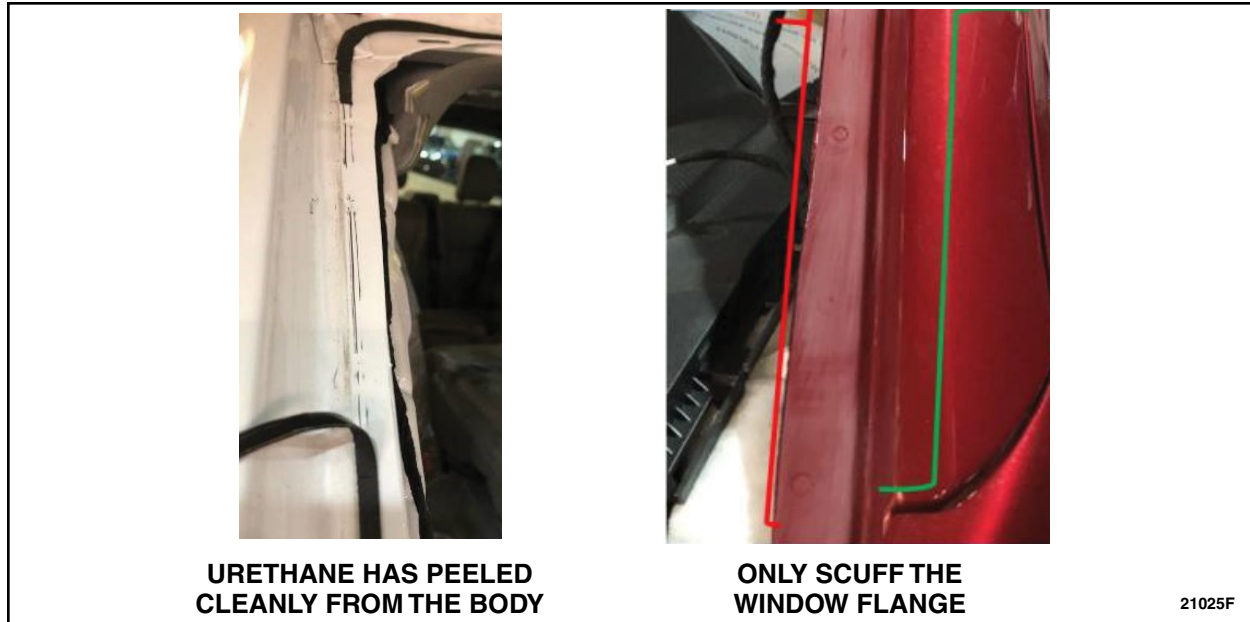

FIGURE 2
5. In areas where the urethane peeled up cleanly, use sandpaper or a Scotch-Brite pad to manually scuff clear coat lightly until it displays a white haze being sure to only abrade the flange. See Figure 2.